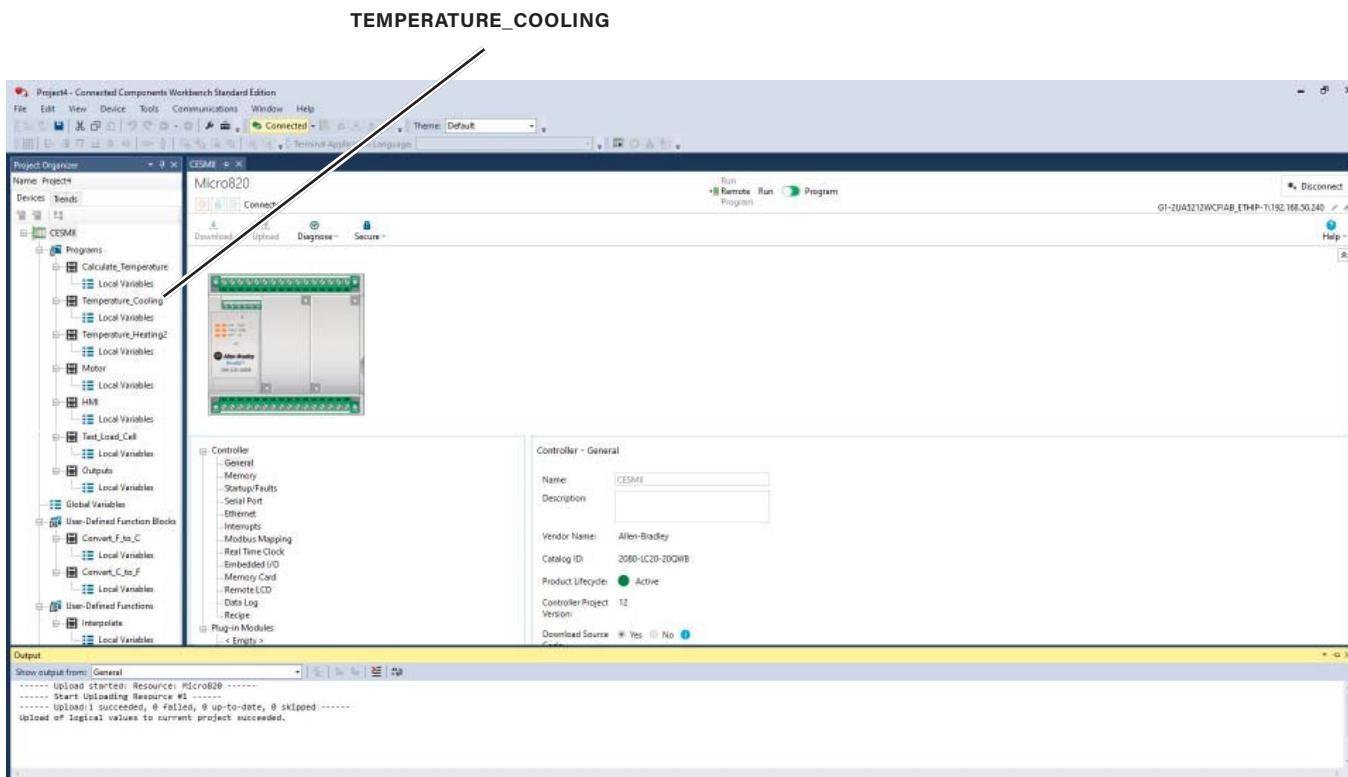

Figure 2-15. CCW with CESMII Program
- Double-click on **Temperature_Cooling**, located in the devices tree on the lefthand side, as shown in figure 2-15.